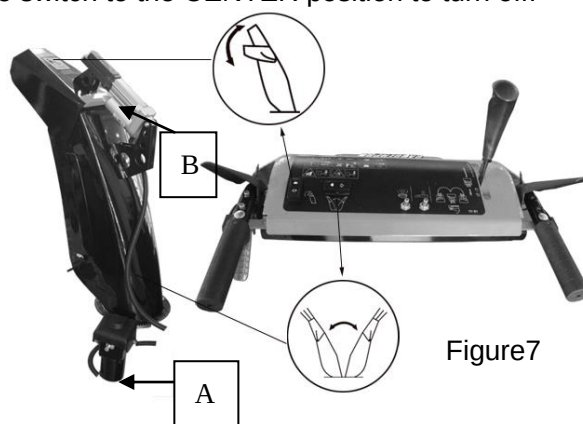

Figure7
- 1.Press the chute rotation switch to the UP position and hold to rotate the chute to the left(A,Figure7)
- 1.Press the chute deflector switch to the UP position and hold to provide a higher stream and greater distance(B,Figure7)
2. Loosen the dipstick and read the oil level. See fig 7
3. The oil level shall be between the marks "HIGH" and "LOW". See fig 7